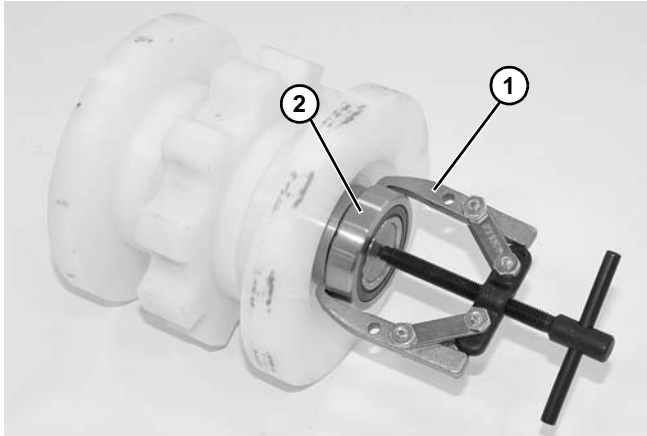

Figure 39
- Using puller (**Figure 39, item 1**), as shown, remove bearing (**Figure 39, item 2**) from shaft assembly. Repeat on opposite side, if needed.